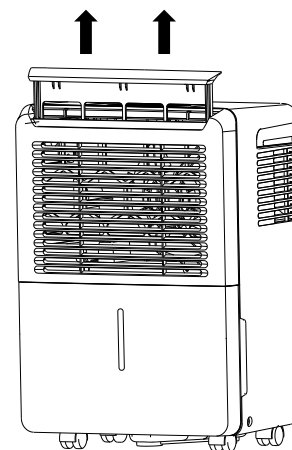

FIG. 13: Removing the Filter
- Remove the filter from the top of the unit (See Fig. 13.)